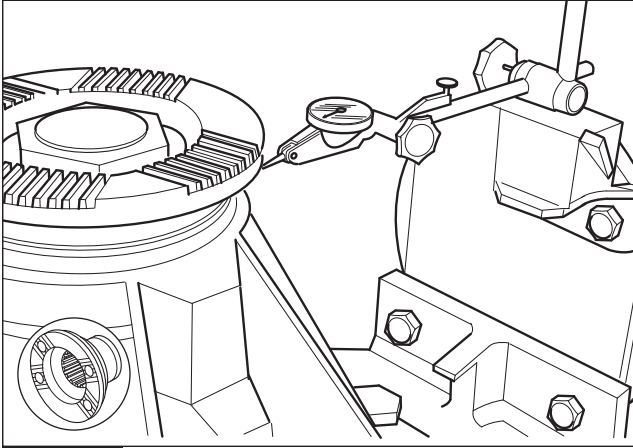

Fig. 2.13
13. Turn carrier over and check companion flange run out and indirect seal check. Tolerance for run out is 0 to 0.15 mm (Fig. 2.13)